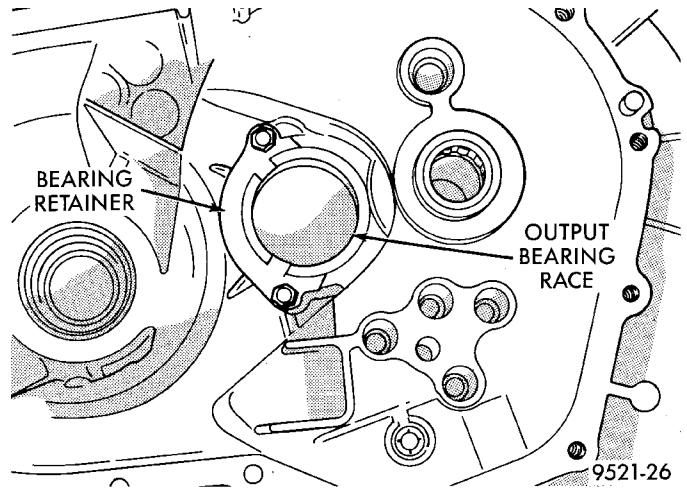

Fig. 124 Output Bearing Strap
- (2) Remove screws at output bearing retainer strap (Fig. 124).